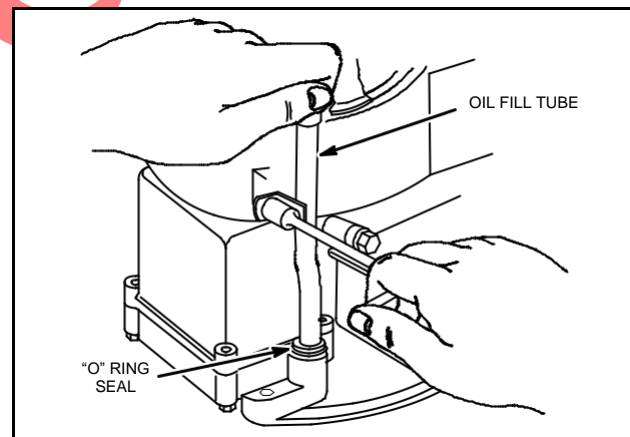

Fig. 579 - EXTENDED OIL FILL TUBE AND
3. When the cap and dipstick assembly is fully depressed or screwed down, it seals the upper end of the tube, Fig. 579.